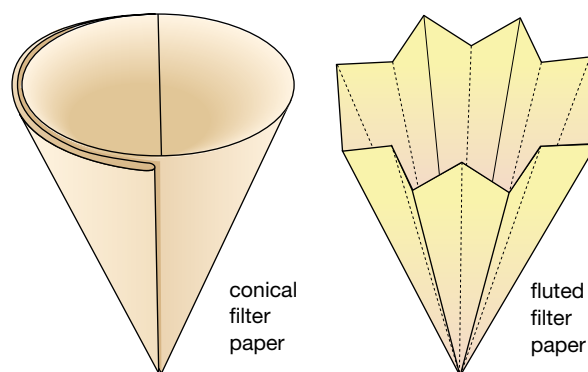

FIGURE 4.2.15
- 2 Fold one filter paper into a conical shape and the other into the fluted shape as shown in the Skill builder 'Folding a filter paper' on page 152 and in Figure 4.2.15. Place each filter in a funnel.